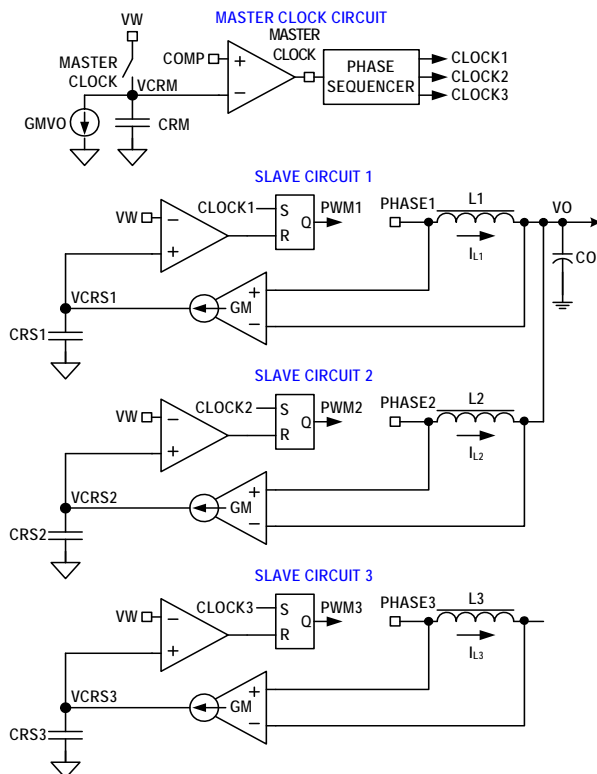
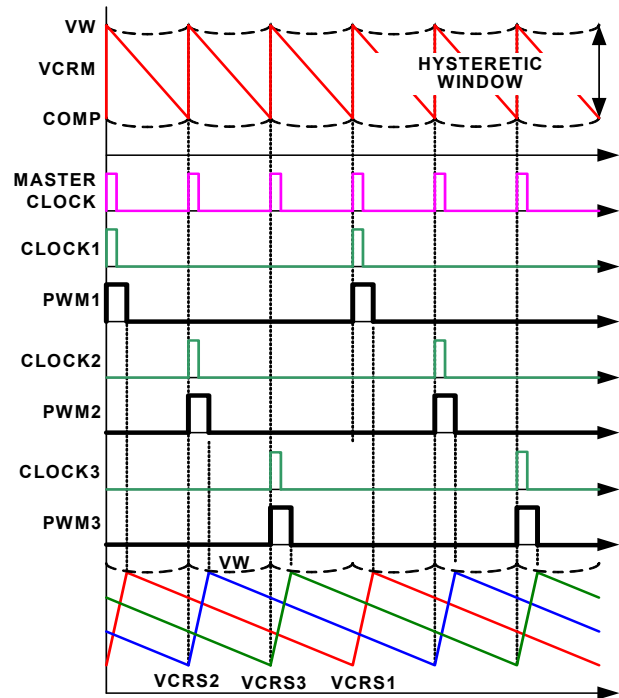

FIGURE 9. R3 MODULATOR CIRCUIT
FIGURE 10. R3 MODULATOR OPERATION PRINCIPLES IN STEADY STATE
The ISL6277A is a multiphase regulator implementing two voltage regulators, CORE VR and Northbridge (NB) VR, on one chip controlled by AMD's SVI2 protocol. The CORE VR can be programmed for 1-, 2- or 3-phase operation. The Northbridge VR can be configured for 1- or 2-phase operation. Both regulators use the Renesas R3 (Robust Ripple Regulator) modulator. The R3 modulator combines the best features of fixed frequency PWM and hysteretic PWM while eliminating many of their shortcomings. Figure 9 conceptually shows the multiphase R3 modulator circuit, and Figure 10 shows the operation principles.